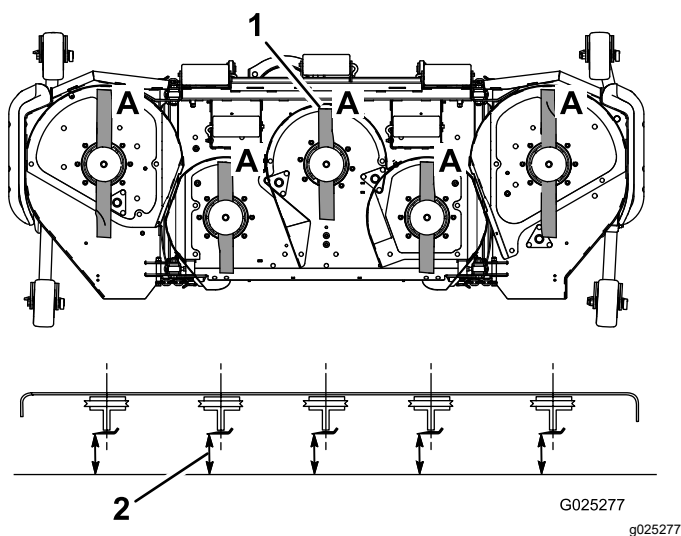

Figure 29
3. Rotate the blades until the ends face forward and backward (Figure 29).
4. Measure from a level surface to the cutting edge, position A, of the blades (Figure 29). Note this dimension.